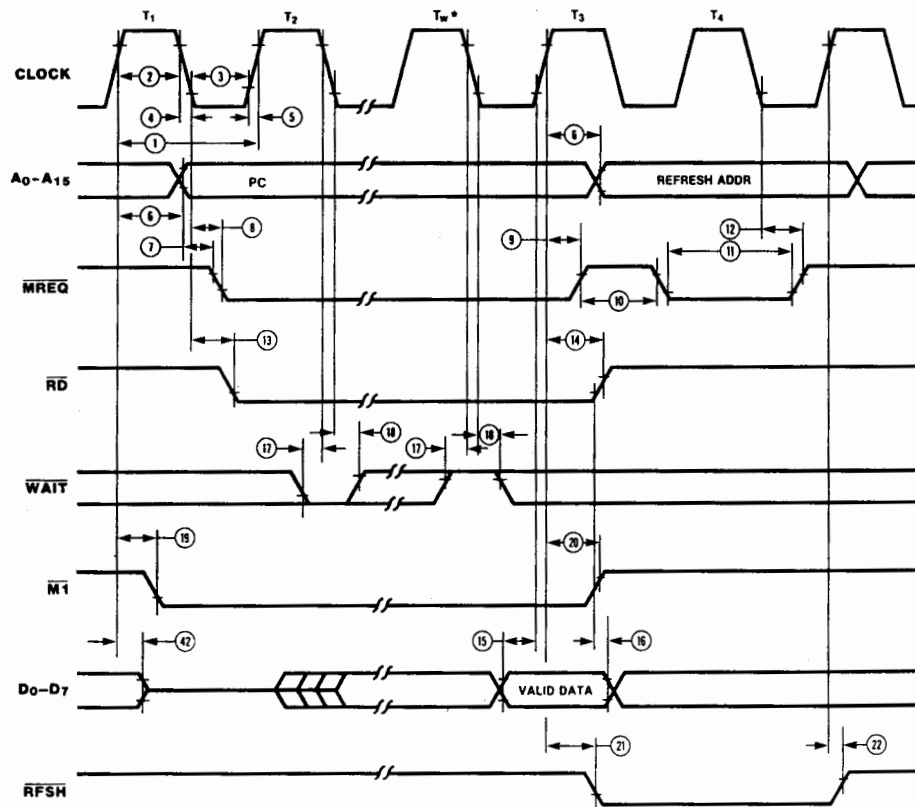

Figure 5. Instruction Opcode Fetch
Instruction Opcode Fetch. The CPU places the contents of the Program Counter (PC) on the address bus at the start of the cycle (Figure 5). Approximately one-half clock cycle later, $\overline{MREQ}$ goes active. When active, $\overline{RD}$ indicates that the memory data can be enabled onto the CPU data bus.